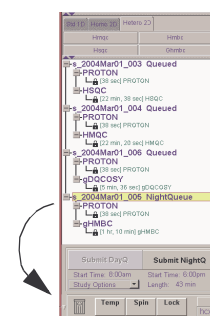

Figure 2. Removing a Sample from the Study Queue
3. Drag the sample to the trash can and release the mouse button, see Figure 2.